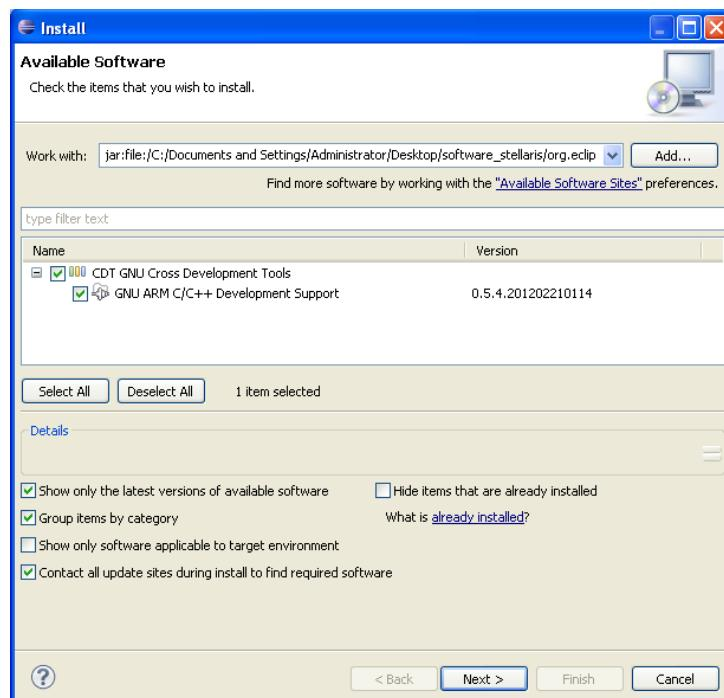

Figure 11.4 Plugin Install Option
- A window similar to that shown in Figure 11.4 will show.